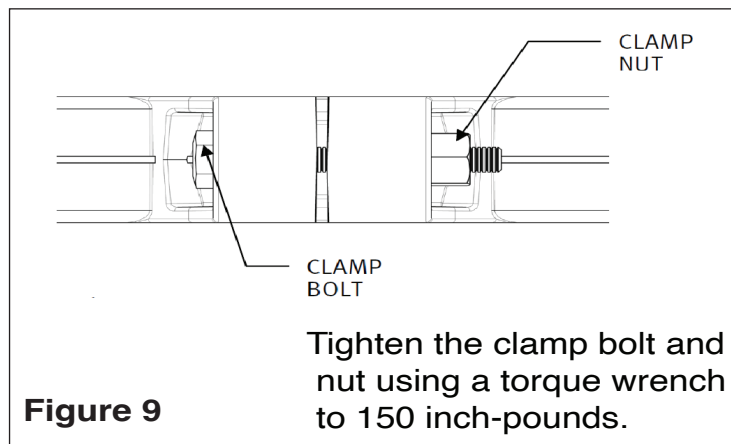

Figure 9
4. Do not rely on hand-tightening the clamp nut to the clamp bolt. Use a 3/4" socket on a torque wrench to tighten the clamp nut to the clamp bolt, applying 150 inch-lbs of torque (see Fig. 9).